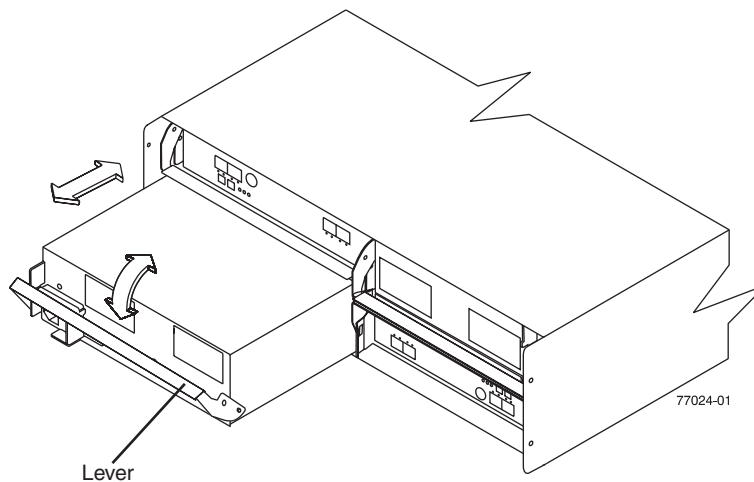

Figure 28. Replacing a power supply and fan unit
1. Slide one power supply and fan unit into the storage subsystem. Be sure to replace the power supply and fan units so that the lever on each power supply and fan unit opens toward the interior of the storage subsystem, as shown in Figure 28. Do not force fit. The power supply and fan unit is designed to prevent it from being inserted into the chassis incorrectly.
Attention: Be sure that the lever is pulled straight out as you slide the power supply and fan unit into the storage subsystem, as shown in Figure 28. The left and right power supply and fan units are seated in the DS4700 Express chassis in opposite orientations. If you cannot fully insert the power supply and fan unit into the power supply and fan unit bay, flip it 180° and reinsert it.